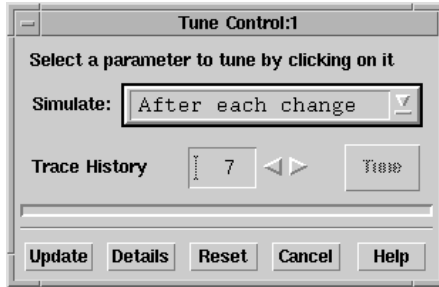

Figure 7-2. The Initial ADS Tune Control Dialog Box.
3. Wait for the initial analysis to complete. The *Tune Control* dialog box appears as shown in Figure 7-2.